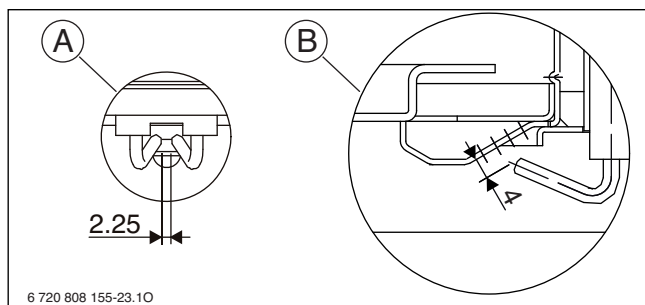
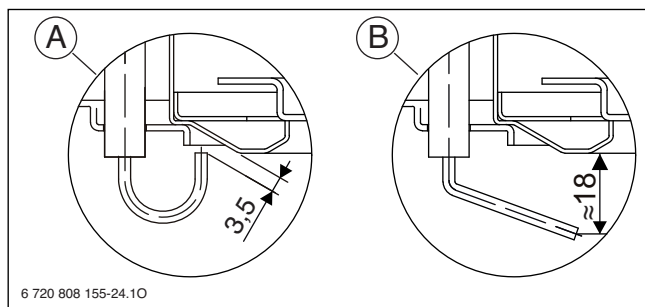

Fig. 44 Ignition electrode
Fig. 45 Monitoring electrode
- ▶ Check the ignition electrode (→ Fig. 44) and ionisation electrode (→ Fig. 45).